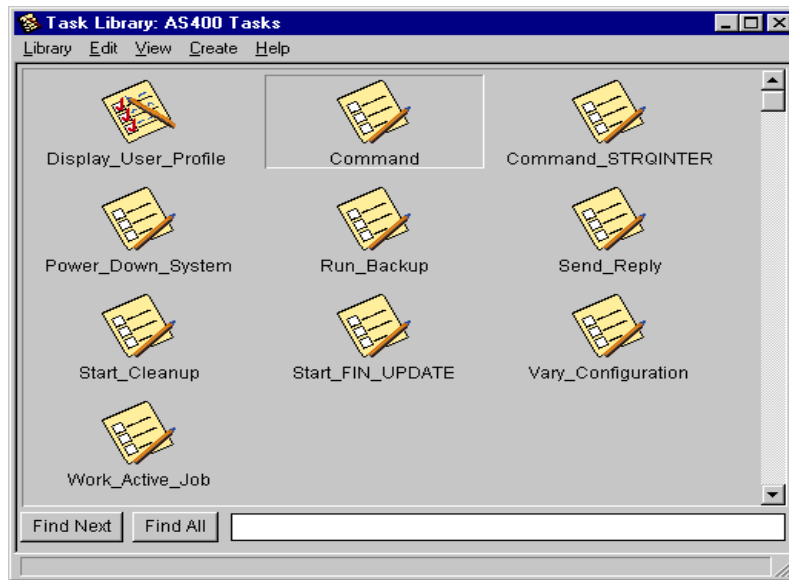

Figure 290. AS/400 Task Library
1. First, we need to create a task to run when the event is detected by the TEC Console. Open the AS/400 Task Library shown in Figure 290 on page 457.